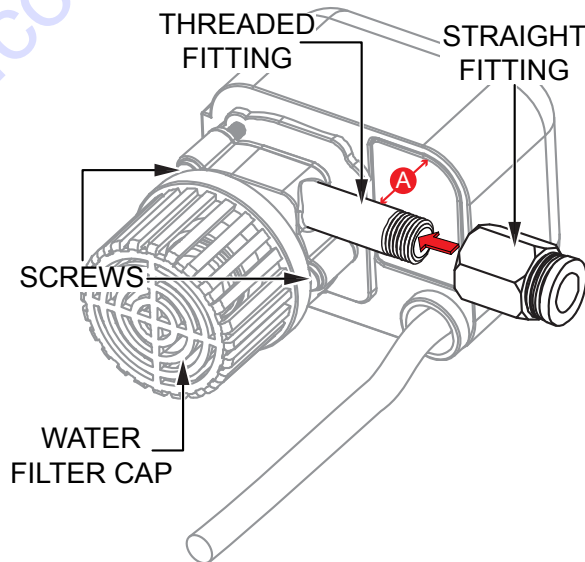

Figure 9. Water Pump Tubing Connection
- Connect the straight fitting to the threaded fitting on the water pump (Figure 9) and hand-tighten to secure.